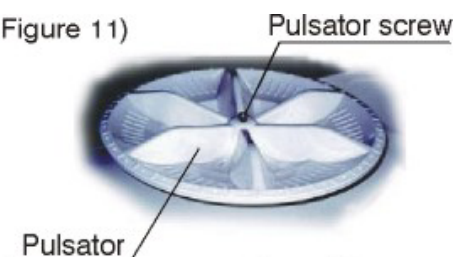

Figure 11
**To sweep abnormal things under pulsator** (see Figure 11)